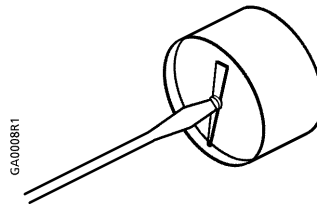

Figure 1. Adjusting the Gauge Pointer.
3. Insert a screwdriver into the screw at the center of the pointer and rotate the screw. See Figure 1.